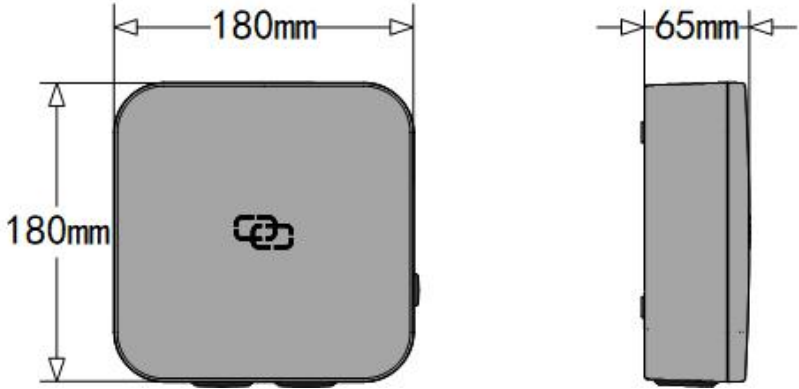

Fig. 4-1 The shape & dimensions of HN10 series
- The shape & dimensions of AC EV charging station shown as Fig. 4-1.